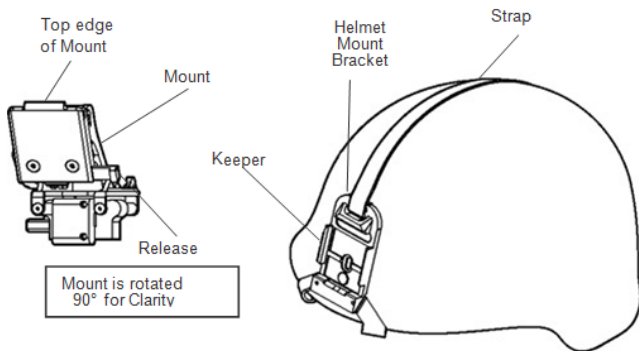
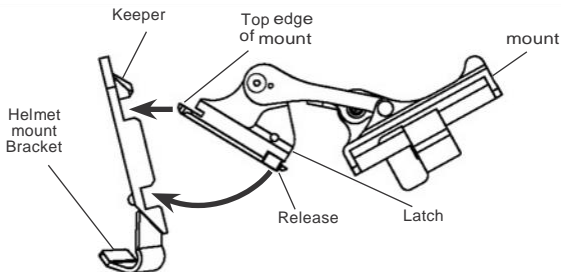

Figure 2.13. Helmet mount
Figure 2.14. Reassembly of helmet mount
- (2) Press the release (Figure 2.13.) to remove the mount from the helmet mount bracket.
- (3) Make sure the strap is laced onto the helmet mount bracket as shown in Figure 2.13.
- (4) With catch (see Figure 2.13.) in forward most position, place the strap over the top of the helmet center (see Figure 2.14).
(5) Hook the rear bracket (see Figure 2.13.) on the center of the back of the helmet and lay the strap with helmet mount bracket over the top of the helmet.
(6) Hook the helmet mount bracket in the center of the front lip of the helmet and hold it in place (see Figure 2.14.).
(7) With the buckle lever open, take up the slack in the strap using the catch. Close the buckle lever.
(8) Disengage the nape strap latch on the left side of nape strap. (9) Don the helmet. Do not fasten the helmet chin-strap.
(10) Engage the nape strap at the nape strap latch. Tension the nape strap for a stable fit, then install and tension the helmet chin-strap. The brow of the helmet should be parallel to the ground and the helmet stable on the head.
(11) Insert the top edge of the mount under the keeper on the helmet mount bracket and rotate downward until the latch engages (see Figure 2.14.). to release the mount from the helmet bracket, press the release and pull forward and down.